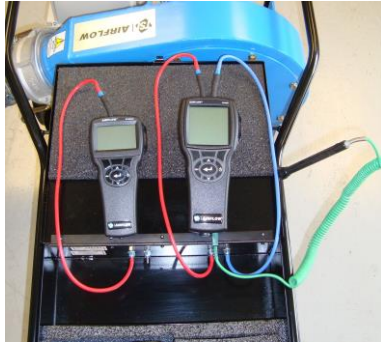

Figure 10. Connecting Instruments to PANDA Tester in High Flow Mode
3. Connect the Model TA465-P to the PAN300 by connecting the (+) and (-) ports on the Model TA465-P to the **P1 (+)** and **P2 (+)** ports located inside the black box of the PAN300 as shown in Figure 10.